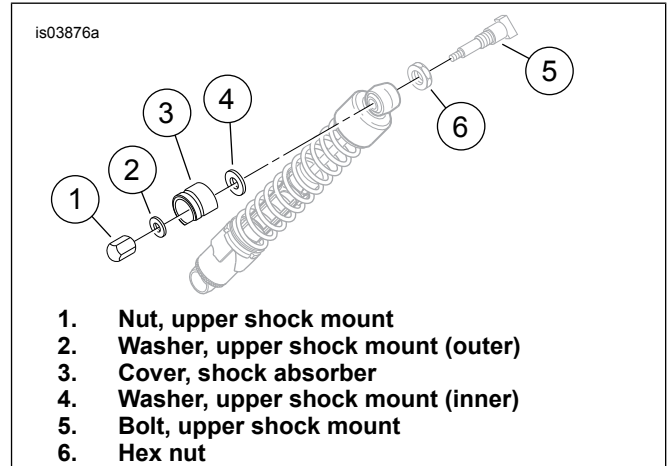

Figure 1. Rear Shock Absorber Upper Mount, 1994 Through 1999 Models
2. See Figure 1. Remove and discard the upper shock absorber nut (1), outer washer (2) and shock absorber cover (3). Do not remove the original equipment (O. E.) inner washer (4) positioned behind the shock absorber cover and against the shock absorber.